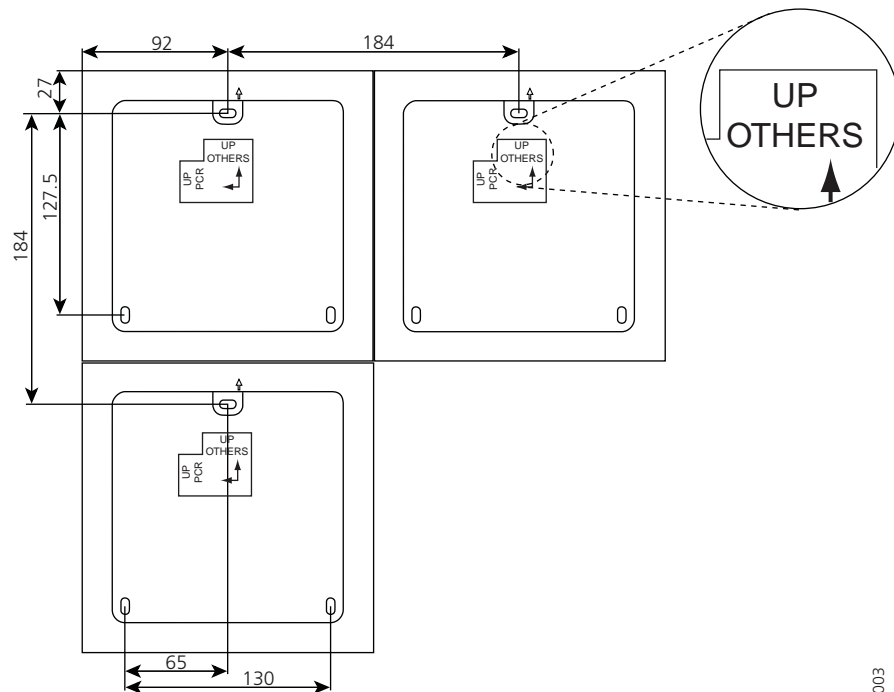

Figure 3. Mounting dimensions in mm. The modules should be mounted with the marking text, "UP OTHERS", upwards.
- Measure and mark out the drill holes by using the dimensions in figure 3. Drill and fasten the modules on the wall with three screws.
See figure 3 on page 4.
- 2 Fasten each module on the wall with three screws, see figure 3 on page 4.
- 3 Mount two clips (which are provided in the parts bag) in each module (2).